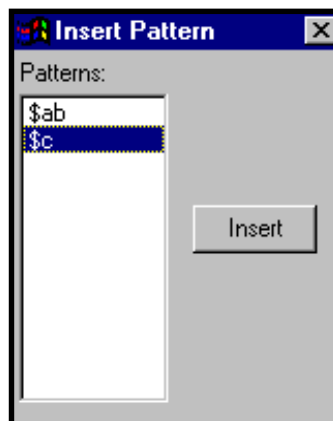

Figure 4-10. Insert Pattern Dialog Box
2. Select the **Edit** ⇒ **Insert Pattern** command. The Insert Pattern dialog box (Figure 4-10) is displayed.